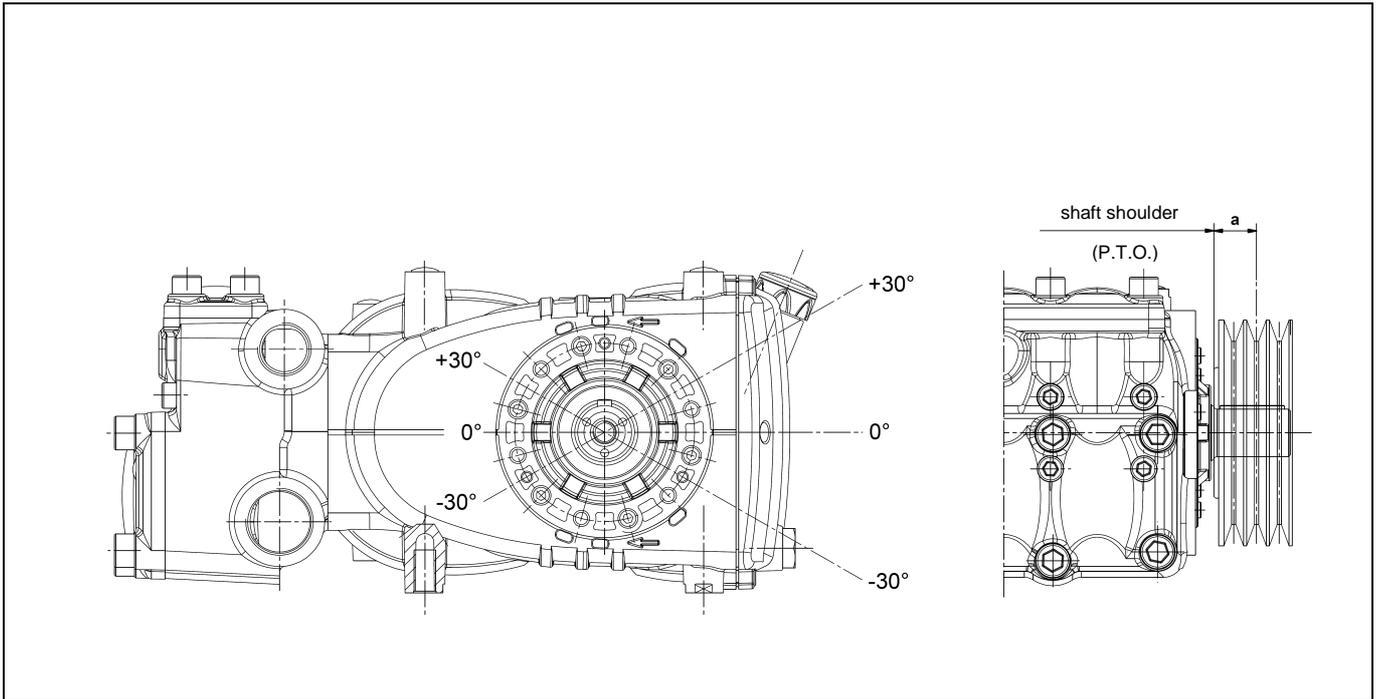

fig. 10
The radial load on the shaft must not exceed 4500 N (value necessary for Layout definition). The transmission is considered adequate if the load is applied to a maximum distance $a=50$ mm from the shaft shoulder (P.T.O) as shown in fig. 10.
- b) Use high performance belts – for example **XPB** instead of **SPB** – as a lower quantity of belts for the same transmitted power may be necessary and a consequent shorter resulting distance compared to the shaft shoulder (P.T.O). "a" of fig. 10
- e) Follow the direction of the belt pull as shown in fig. 10; for other needs, contact **our Technical or Customer Service Departments**.